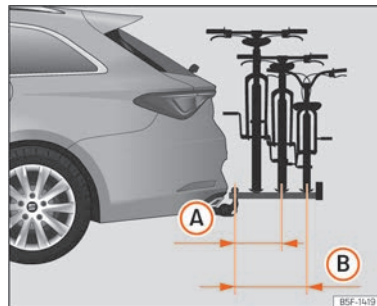

Fig. 200 Schematic representation of the maximum load overhang of a bicycle rack for two or three bicycles.
- (A)** With up to 55 kg load capacity: 500 mm (approx. 19.7 in)
- (B)** With 75 kg load capacity: 700 mm (approx. 27.6 in)
The maximum overhang shall not exceed 500 mm from the centre of the rail of the last support »» **Fig. 200 (A)** for two-bicycle racks. In the case of three-bicycle racks, the overhang must not exceed 700 mm »» **Fig. 200 (B)**.